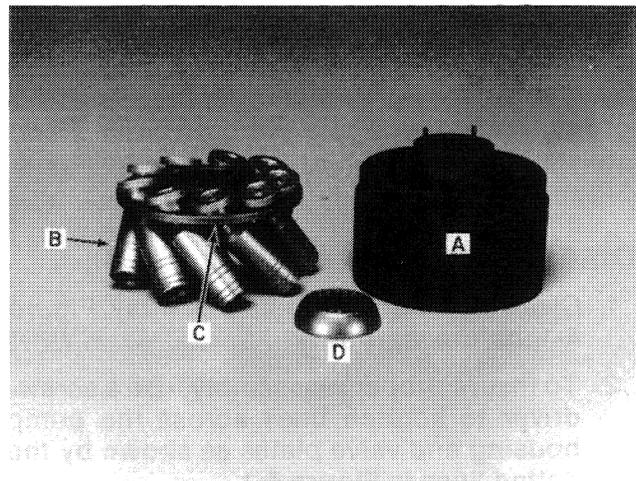

FIGURE 4-7
7. The rotating group parts are shown in Figure 4-7.